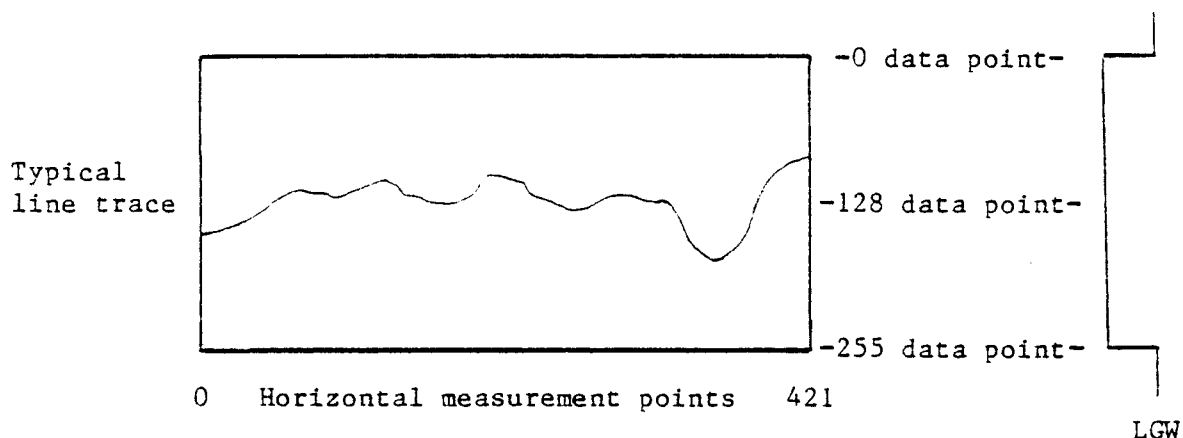

Fig. 8 Display data location (AC02/AC03)
68. The display is interlaced (alternate frames formed by scanning the beam across the screen, bottom to top, left to right, are offset by half a vertical line width), see Fig. 8 for details. This standard TV method allows higher resolution on the c.r.t. AC01 controls and synchronizes signals on other boards such as AC02,3,4 and 5, no actual video signals are present on AC01.
77. IC9 and IC10, Line display memories hold the display data in consecutive locations i.e. Display values 0 to 421 (from left to right) are stored in the RAM addresses 0 to 421. The height of a vertical line trace component is dependent on the data (0-255) stored at the corresponding RAM location. Data 0 corresponds to the top and data 255 to the bottom of the trace respectively, as shown in Fig. 8.